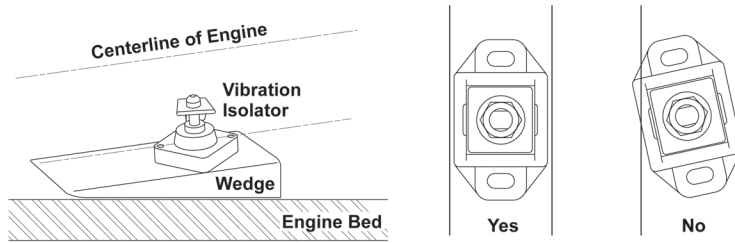

Figure 4-13: Horizontal Centerline of Isolator is Parallel with Crankshaft Centerline
Vibrations isolators are designed to provide the most efficient dampening of driveline vibrations when they are installed per the manufacturer's recommendations. If the vibration isolator is misaligned, it distorts and stresses the isolator element and adversely affects the dampening characteristics. Vibration isolator service life may also be significantly reduced if misaligned (see Figures 4-13 and 4-14).
1. The isolator base must be installed parallel to the crankshaft centerline to maintain the required range of motion, clearance, and isolation. It is also critical that the engine mount to isolator stud mating surfaces are parallel with the crankshaft centerline. The oil pan flange can be used as a visual reference to the crankshaft centerline. If the engine bed or stringer mounting system is not parallel to the engine mounts, the stringers must be leveled with shims or wedges installed under the isolators, to correct the misalignment (see Figure 4-13). Shims and wedges must be made of non-compressible material such as brass, aluminum, or steel.
2. Rotate the isolator housing, if necessary, to align its horizontal centerline parallel with the crankshaft centerline (see Figure 4-13). The yaw angle must not exceed 2 degrees. Tighten the isolators down to the stringers.